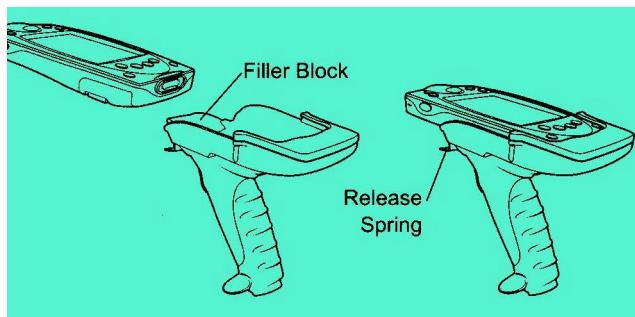

FIGURE 3. EP1 TRG3000 TRIGGER HANDLE.
1. Slide the EP1 into the trigger handle until it locks into place (see figure 3).
2. To remove the EP1, press down the release spring and pull the EP1 forward (see figure 3).